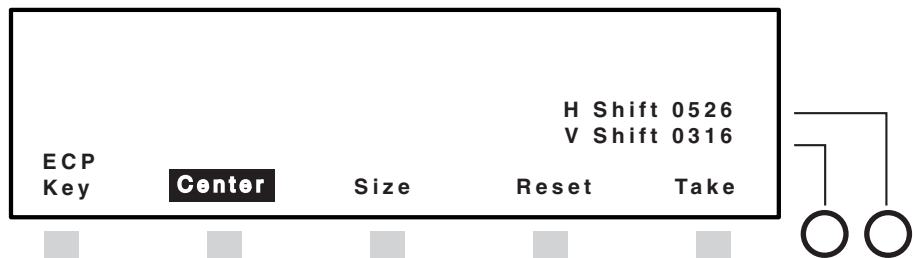

Figure 3-16 — Centering the title box
6. To move the title box in the display, press the Center button if it has not already been selected by default (figure 3-16).